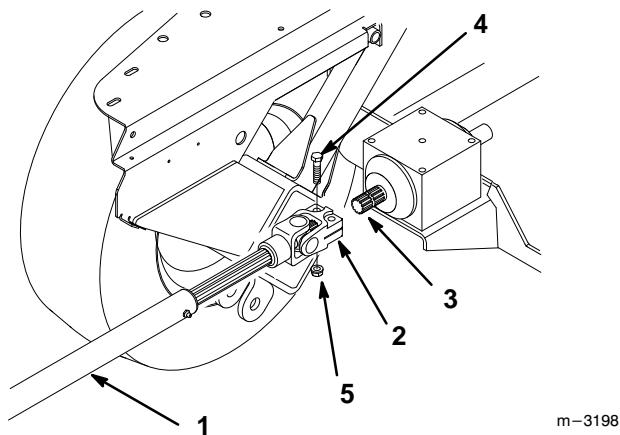

Figure 12
13. Remove (2) 3/8"-16 x 1-5/8" (41.5 mm) bolts and 3/8"-16 locknuts from universal joint and slide the driveshaft off gearbox shaft (Fig. 12).